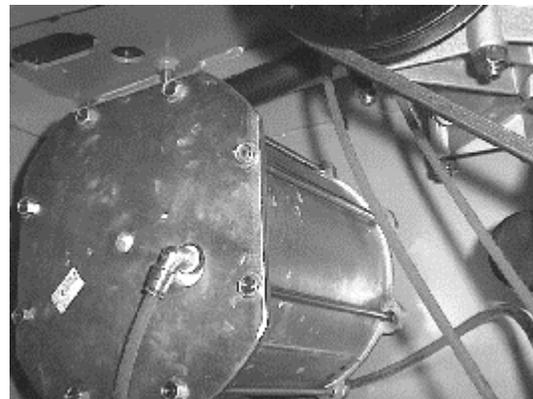

Figure 16
8. To remove the bead breaker cylinder (Figure 16),